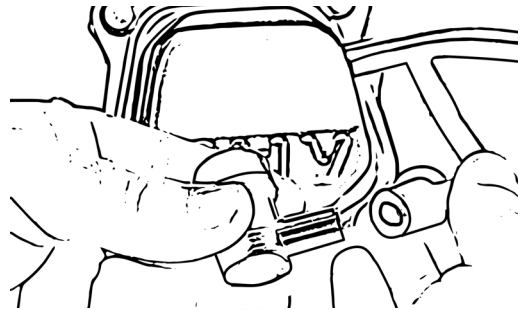

Figure 30
- Firmly push the additional plug connector onto the cable and turn the plug connector clockwise to tighten, Fig. 30.